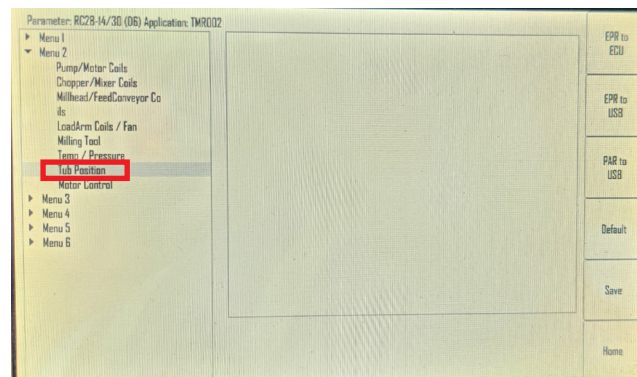

Figure 17: Select 'Tub Position'
19. Using the selector wheel, scroll down to 'Tub Position'; see Figure 17.